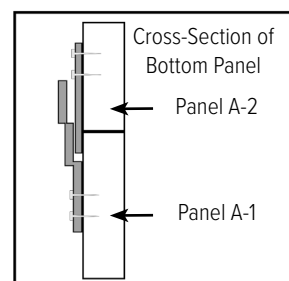

Figure 3.2.4
3.2.4 Place Panel "A-2" flush on top of Panel "A-1" as shown in Figure 3.2.4. Fasten the top of the panel to the cab shell. Repeat steps for "A-3".